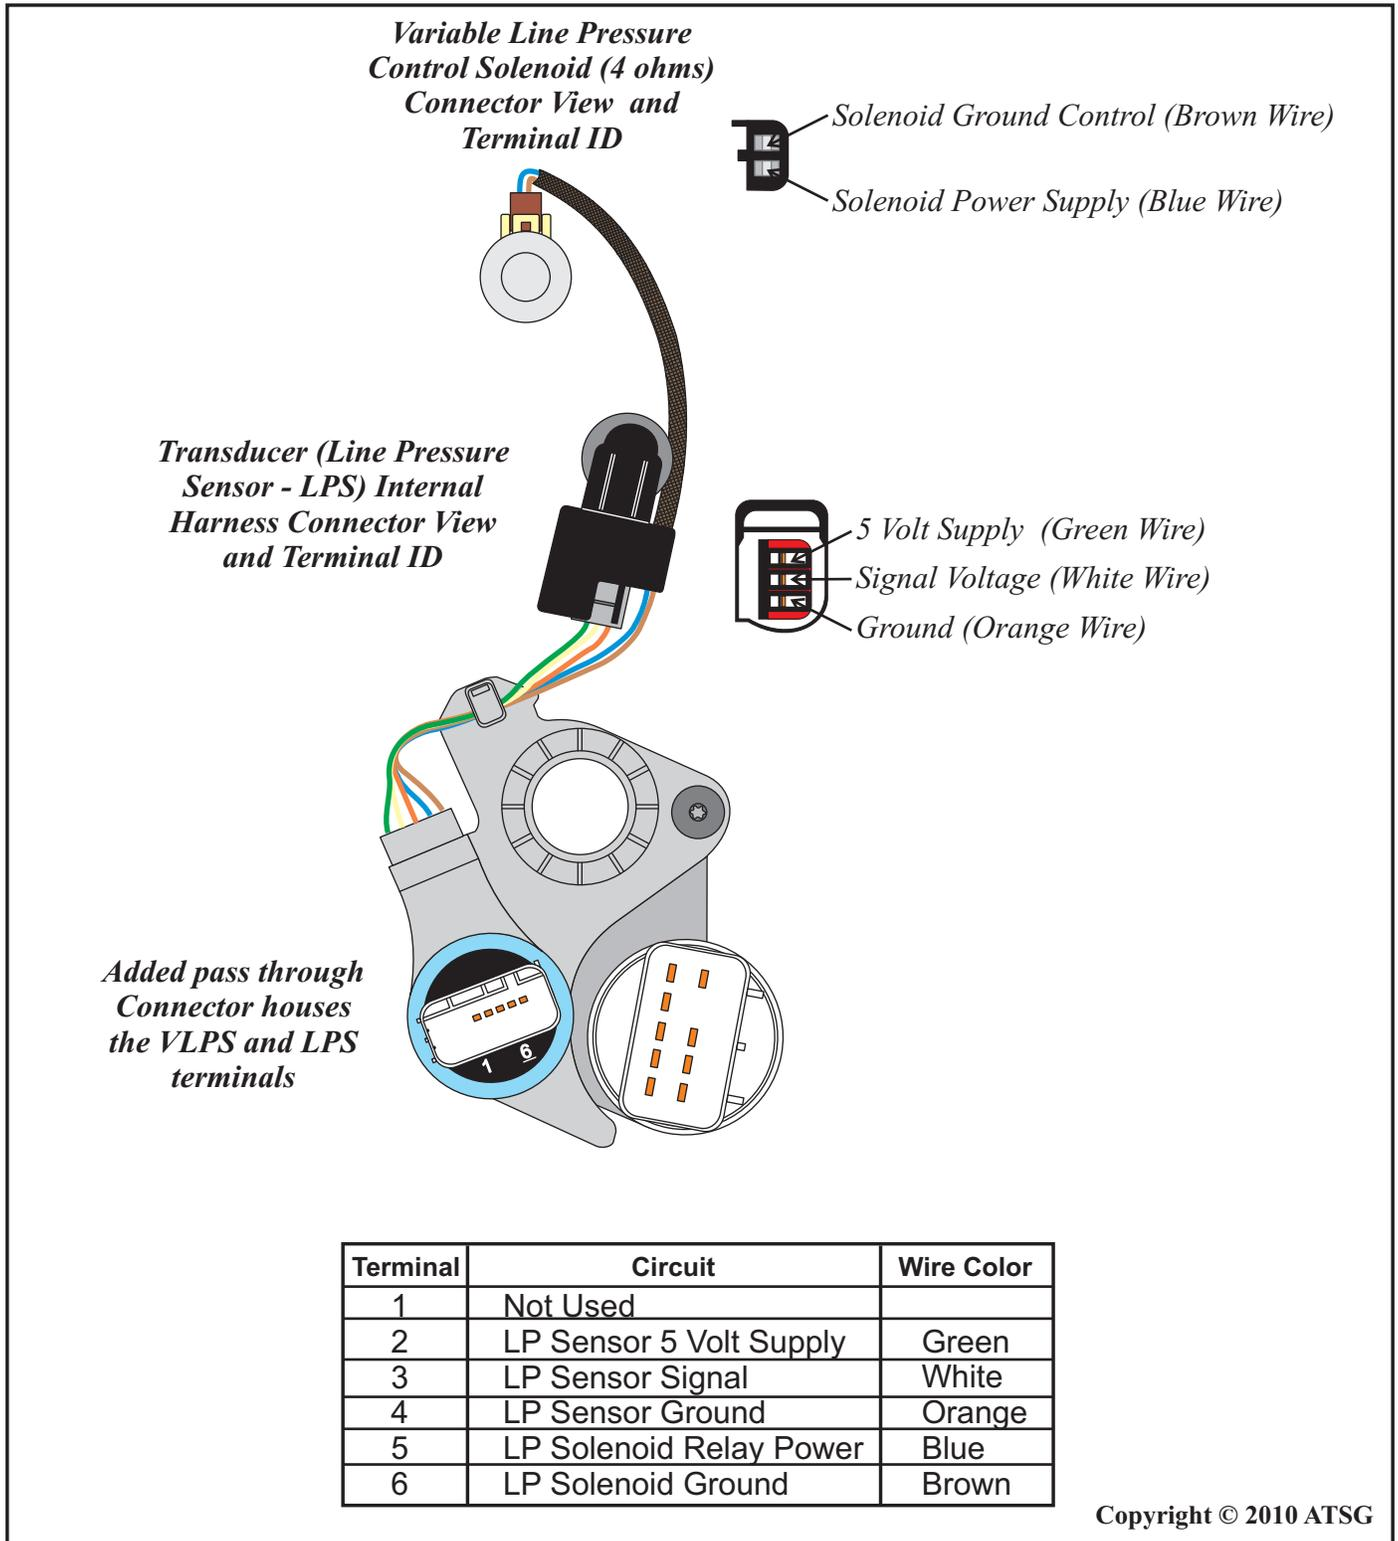

Figure 1
**Change:** The 41TE (A604) transmission underwent a hydraulic revision that accommodated the use of a variable line pressure control solenoid (VLPS) (Figure 1) and is now called the 41TES transmission.
**Case:** The case was changed to accommodate an additional pass through connector for the VLPS and Transducer mounted on the valve body (Figure 1).
**Vehicle Harness:** An additional connector was added to the vehicle harness to the transmission to accommodate the added pass through connector mounted on the valve body. The harness plugging into the PCM contains the added wiring for the VLPS and Transducer (Figure 1).